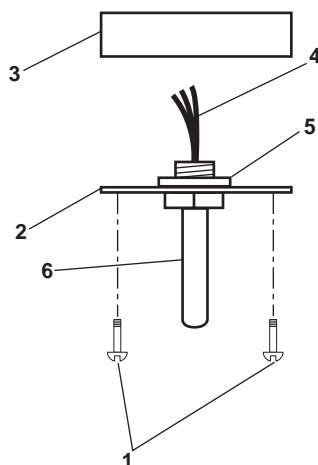

Figure 2. Thermal Heat Detector
1. Remove the two screws (figure 2, item 1) that secure the junction box cover (figure 2, item 2) to the junction box (figure 2, item 3), and remove the junction box cover.
2. Label and disconnect the wiring (figure 2, item 4).
3. Remove the retaining nut (figure 2, item 5), and remove the thermal heat detector (figure 2, item 6) from the junction box cover (figure 2, item 2).
1. Install the thermal heat detector (figure 2, item 6) into the junction box cover (figure 2, item 2), and secure it with the retaining nut (figure 2, item 5).
2. Connect the wiring (figure 2, item 4) using the labels from step 2 of Removal as a guide. Remove the labels.
3. Install the junction box cover (figure 2, item 2) on the junction box (figure 2, item 3), and secure it with the two screws (figure 2, item 1).